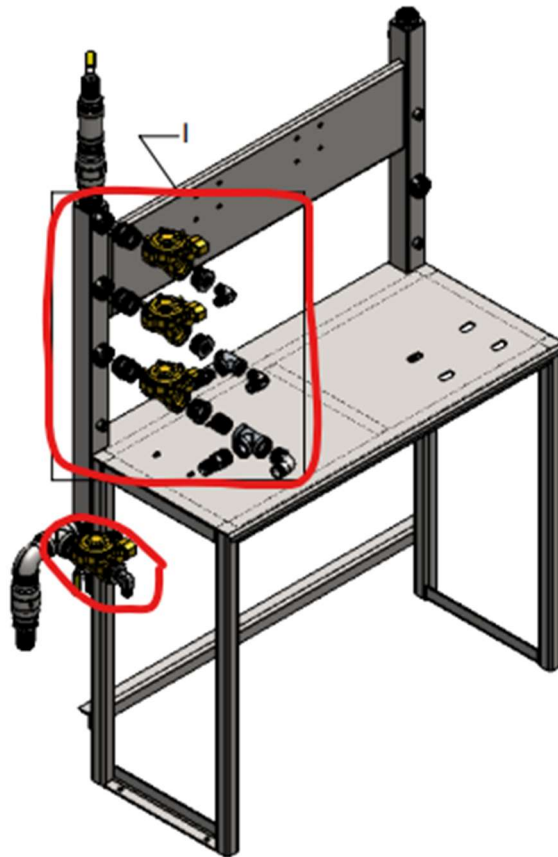

Figure 1. ASCO Valve Stacks to Remove
Step 3: Remove ASCO valve stacks highlighted below in Figure 1.